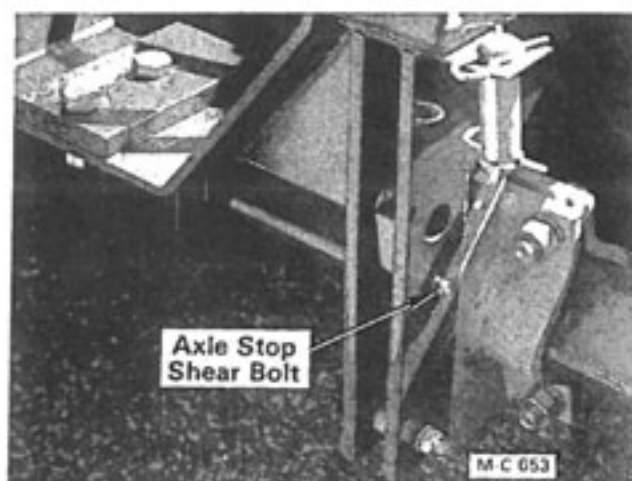

Figure 15E
9. Remove the Shredder pole jack and store it on the jack mount on the right side of the Shredder. Remove the axle stop shear bolt, see Figure 15E. Raise the Shredder with the hydraulic ram or optional mechanical ram.
4. Lower the Shredder with the hydraulic or optional mechanical ram just far enough to install the axle stop shear bolt, see Figure 15E. The shear bolt holds the Shredder axle and wheels up during transport.